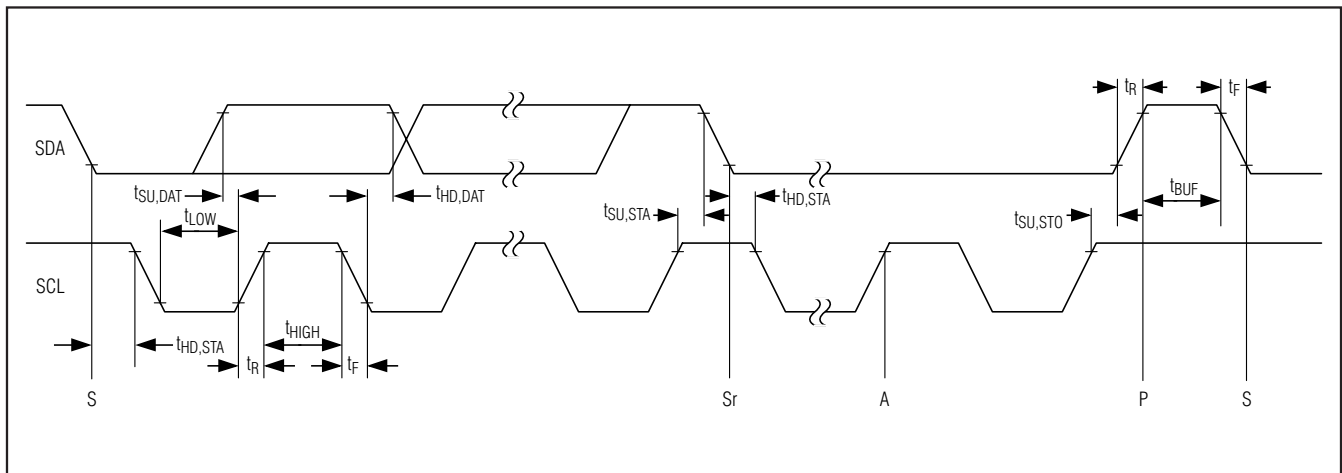
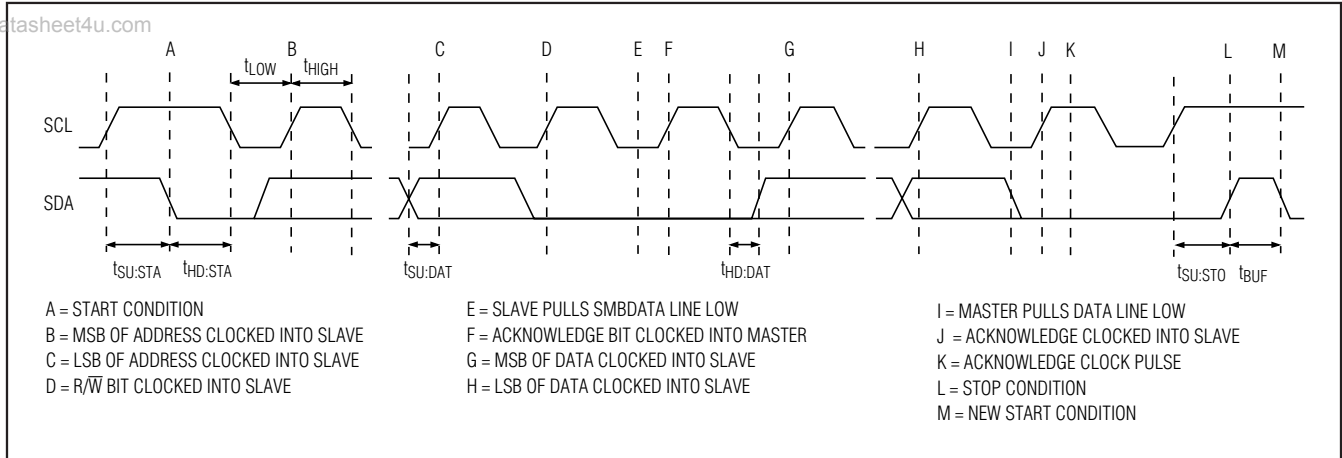

Figure 1. I^2C Serial Interface Timing
Figure 3. I²C Write Timing Diagram
The master initiates a transmission with a START condition (S), a high-to-low transition on SDA with SCL high. The master terminates a transmission with a STOP condition (P), a low-to-high transition on SDA while SCL is high (Figure 3). The STOP condition frees the bus and places all devices in F/S mode (Figure 1). Use a repeated START condition (Sr) in place of a STOP condition to leave the bus active and in its current timing mode.